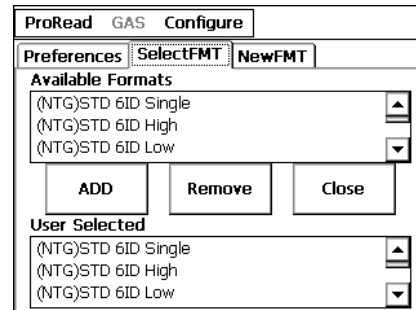

Figure 5.4 Available Formats Screen
- 1 Touch or click **SelectFMT** to view the available formats used for programming ProRead registers. See Figure 5.4.